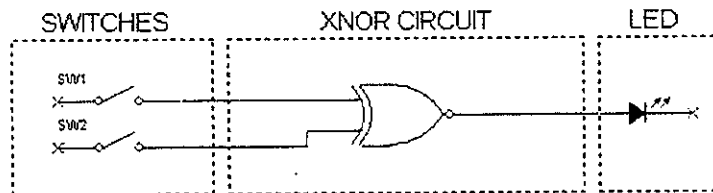

Figure 2 - XNOR Block Diagram
1. Using as many extra NAND gates as needed, modify your design from Part A to create a digital circuit that performs the operation of a XNOR gate (as depicted in Figure 2).